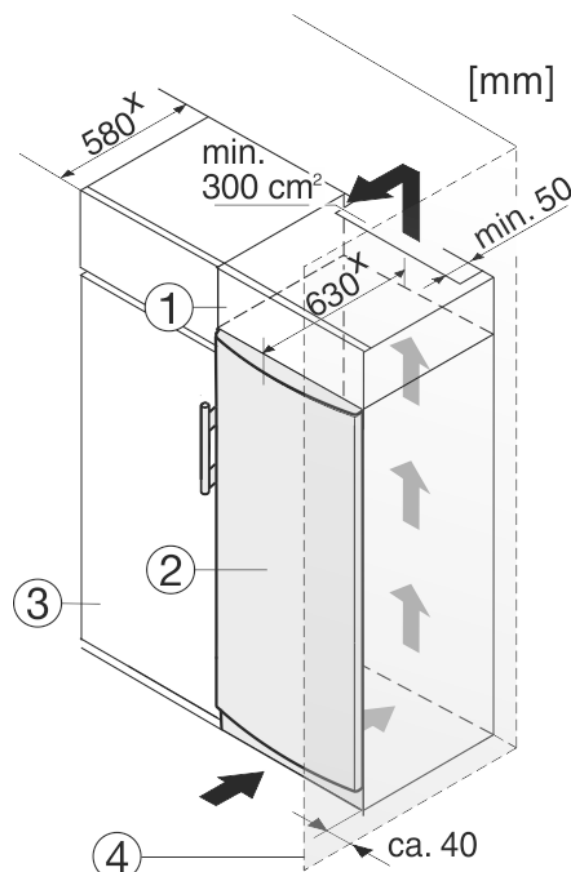

Fig. 9
The appliance can be built into kitchen units. A top cupboard *Fig. 9 (2)* can be added above the appliance in order to bring the appliance *Fig. 9 (1)* up to the height of the fitted kitchen units.
When installing with kitchen units (max. depth 580 mm), the appliance can be positioned directly next to the kitchen cabinet *Fig. 9 (3)*. The appliance will project by 34 mm * at the sides and 50 mm * in the centre of the appliance in relation to the kitchen cabinet front.
If the appliance is installed with the hinges next to a wall *Fig. 9 (4)*, the distance between appliance and wall has to be at least 40 mm. This corresponds to the projection of the handle when the door is open.